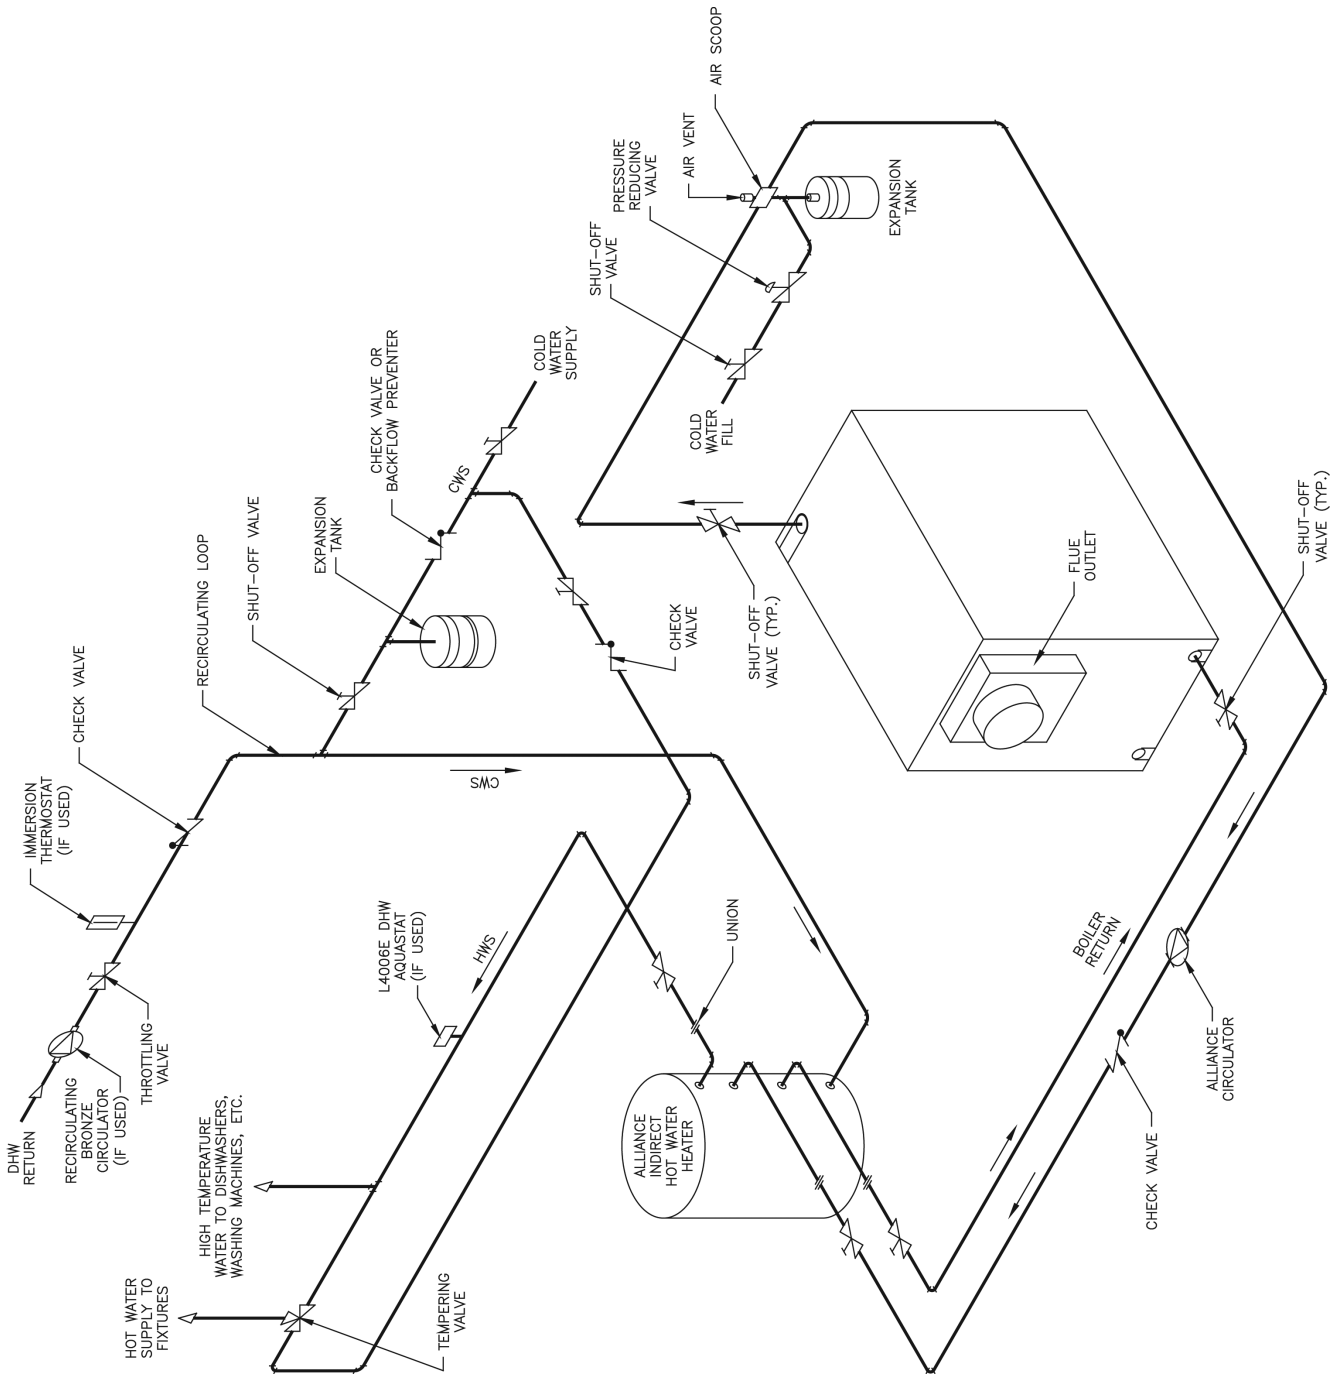

Figure 34c: DHW Generation with Indirect Water Heater
3. Hot Water Boiler/Indirect Water Heater - The use of indirect water heaters for domestic hot water generation is common and somewhat advantageous over tankless coils alone, since they also provide DHW storage. A tempering valve and recirculating pump are again recommended for a dual temperature system, to provide a constant temperature to the fixtures without waiting for cooler water to warm up. Figure 34c shows a typical indirect heater piping application with no space heating. Indirect pump flow rates are calculated based on a 20°F ΔT .